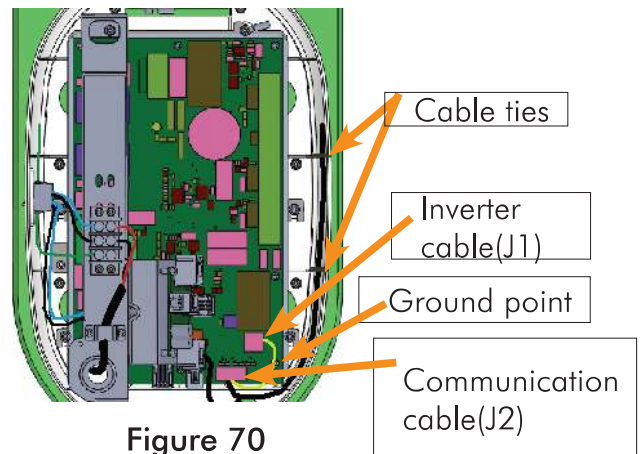

Figure 70
- Using a 2.5mm allen key connect the GND wires(Ring terminals) of both the Communication & inverter power cables in the Base Unit to the Power Board fixing screw as shown in Figure 70 .
- Connect the inverter power cable to J1 connector(Non-polarised) using a Jewel screwdriver (holding the connector) as shown in Figure 70 .
- Connect the communication cable connector to J2 connector of the power board as shown in the Figure 70 .
- Align the cables on the base unit and lock the cables on the cable mount as shown in Figure 70 . Use new Cable ties to fix the cables on the existing cable mounts & cut the extra length of cable ties using a cable tie cutter.